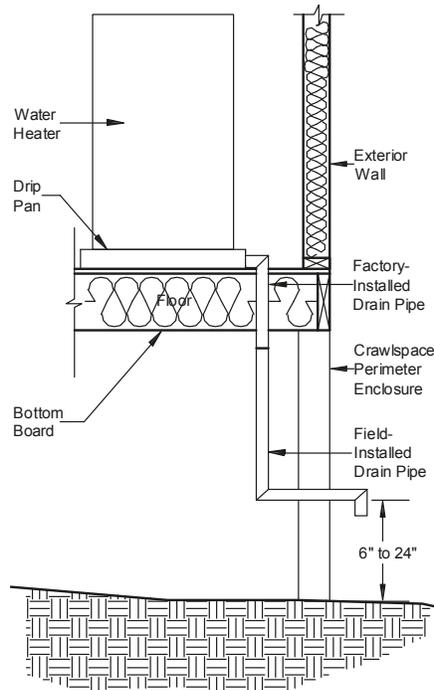

Figure 84. Water heater drip pan and drain
6. **Install water heater drip pan drain.** Assure that the drain for the water heater drip pan does not terminate under the home. Using the materials provided and the accompanying instructions run a drain line from the water heater drip pan through the wall or floor to the exterior of the crawlspace. Terminate the line between six and 24 inches above grade. (**Figure 84**). Make the termination point rodent proof.